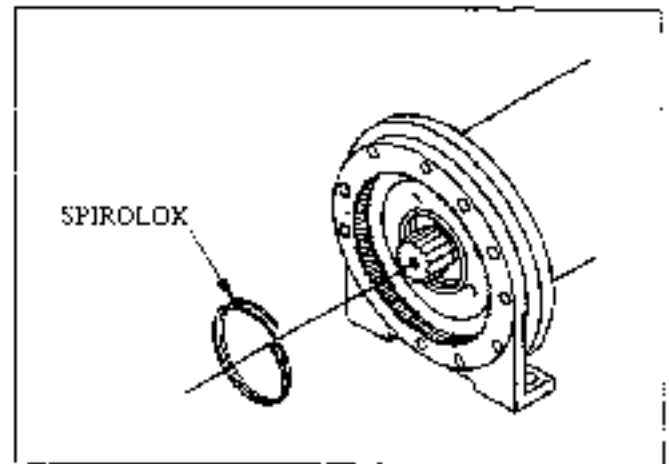

Figure 10
- (9) Remove the Spirolox Retaining ring as shown in Figure 10.